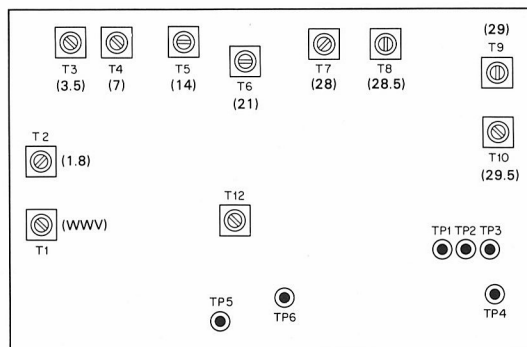

Fig. 22 VCO unit
- 1) Connect the voltmeter to TP4 in VCO unit (X50-1330-00) of PLL unit (X60-1010-00) (refer to **Fig. 22**).